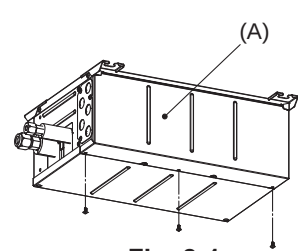

Fig. 8-1
- Remove the electric cover. (Fig. 8-1)